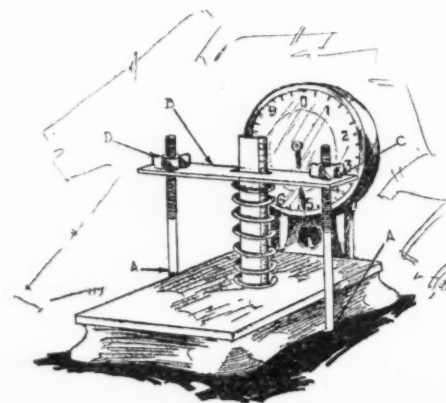

Fig. 1—Simple method for testing valve spring tension by means of a platform scale
**1**—A simple scheme for testing valve spring tension will be found in Fig. 1. In fact, any device where the comparative tension of the springs can be measured will serve the purpose. The thing to remember is that each spring must be measured with exactly the same device or leverage. Almost any sort of scale can be employed, but a counter scale will be best adapted for the purpose, as this can be placed on a table or other flat surface and at a height that will not make bending over necessary. Have a flat piece of iron about  $\frac{1}{4}$  in. thick, 2 in. wide and a little longer than the width of the floor of the scale. Rig two rods, about  $\frac{1}{4}$  in., as shown at A in the figure; the other ends should be threaded. The flat iron crossbar should have a hole near each end to take these rods and another in the middle, perhaps  $\frac{3}{4}$  in. in diameter. A thumbnut can be utilized to advantage on the end that is to be operated to pull down the spring by the crossbar. Remember to hook the rods A under the base of the scale. Now, when you have placed the valve spring under the crossbar and have screwed down both the nut C and thumbnut D until the crossbar is level, and so it just touches the valve spring—inserted under the crossbar, as shown—you can put a small scale rule through the center hole in the crossbar down to the floor of the scale. You will note the reading on the rule at the surface of the crossbar. Then turn down the thumbnut—leaving the nut C alone—up to a certain point on the rule and note the reading in pounds on the scale. This will determine the relative strength of each spring. A weak spring can be stretched somewhat to do service.